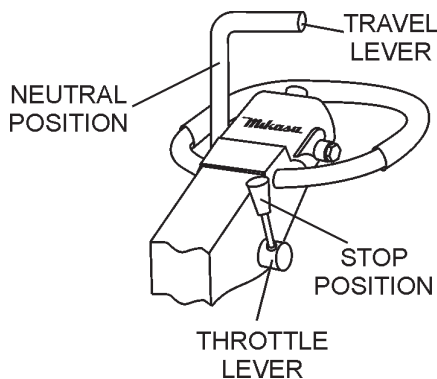
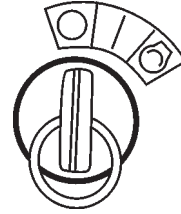

Figure 20. Throttle Lever (Stop)
Figure 21. Starter Switch (STOP)
4. To make the compactor move in the reverse direction pull the travel lever (Figure 21) backwards.
3. Place the throttle lever in the **STOP** position (Figure 20) to stop the engine. If using an electric start unit, return the key switch to the **STOP** position (Figure 21) as soon as the engine stops.